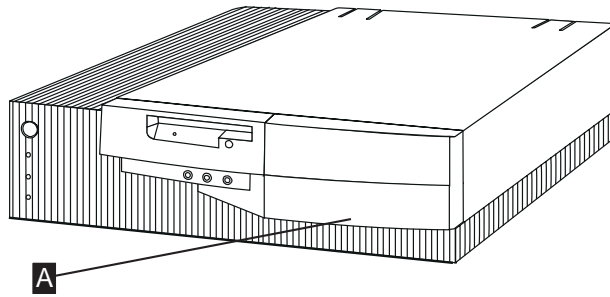

Figure 1-2. Installing Label on the Front Side of the Network Node Processor (6275)
2. \_\_\_\_ Using label (PN 0782966), **identify** your Network Node Processor-A or Network Node Processor-B by sticking the appropriate label **A** on the front side of the unit (refer to Figure 1-2).